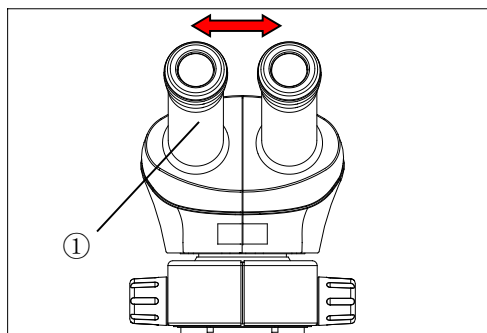

Fig. 10
3.1.1. Adjusting interpupillary distance (Fig. 10)